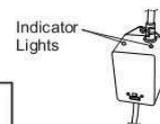

FIGURE 7
22. Once power is activated you can check the ballast (12), Figure 7, to see if the **CLEARRAY** System is functioning. A solid green light indicates that the **CLEARRAY** System is being provided power and should always be on. A solid red light indicates that UV bulb is activated.